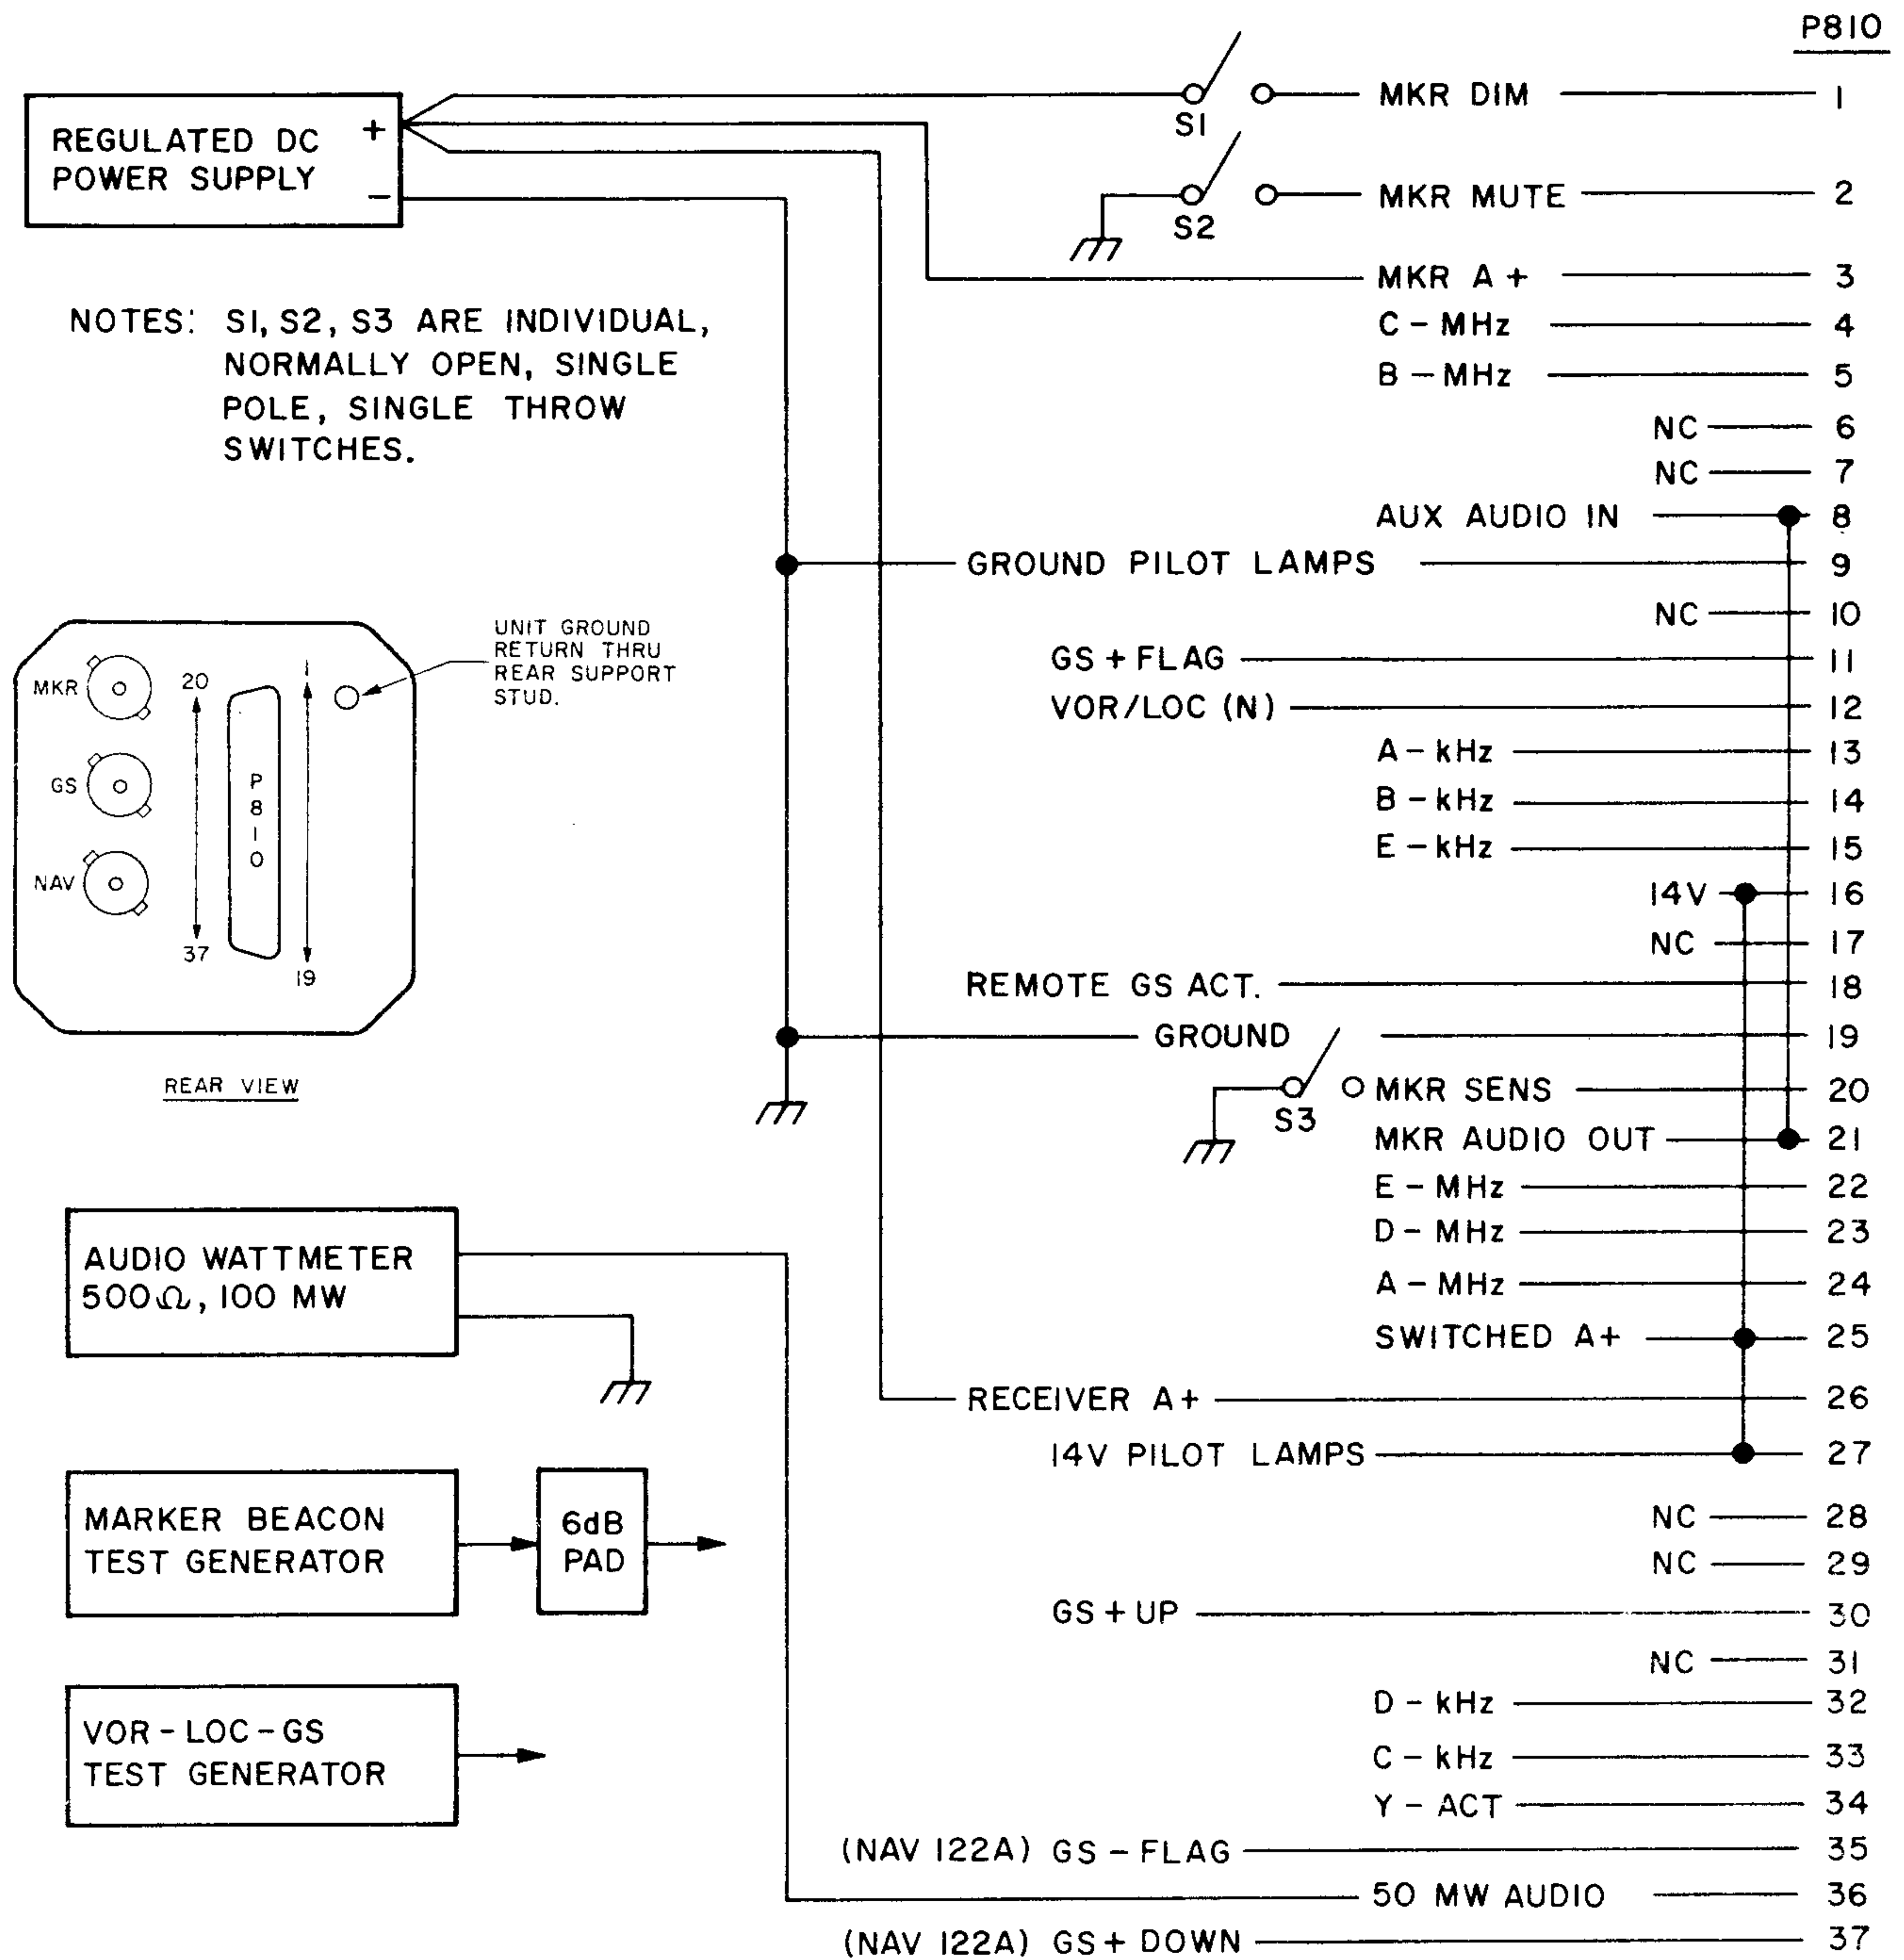

FIGURE 2-1. BENCH TEST HARNESS
The harness shown in Figure 2-1 will permit bench testing of either a NAV 121, 122, or 122A. Alternatively, the cable to be installed in the aircraft may be used, providing in addition, a checkout of avionics and cabling.
- 1) Connect the test equipment (Section 2.2.2.1) as shown in Figure 2-1.
- 1) Refer to Figures 2-1 and 2-2.
- 2) Refer to Figure 2-1 and set S1, S2, and S3 as shown.